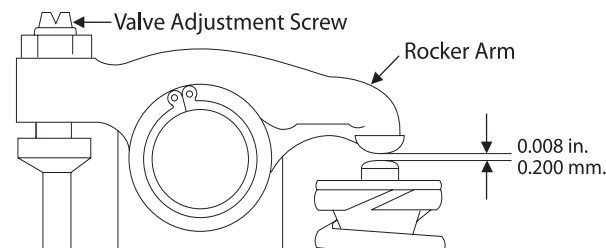

Figure 10: Valve Adjustment
3. Loosen the lock nut and adjust the clearance between the rocker arm and valve guide of both the intake and exhaust valves with the adjustment screw (Figure 10). Clearance on both intake and exhaust valves should be 0.008 in. (0.2 mm).